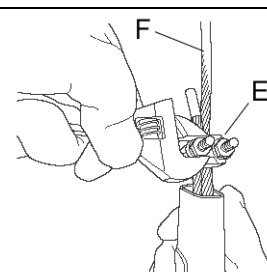

Figure 6-11
- 6) Remove the Wire Rope Clamp (E) from the Wire Rope (F) as shown in **Figure 6-11**.